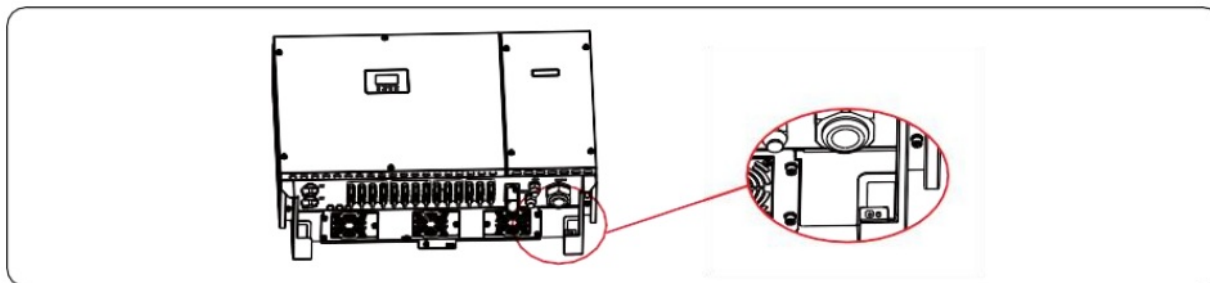

Figure 5.3 Securing the PGND cable
Step 3 Remove the ground screws from the ground points, secure the PGND cable (done by step 1 & 2) using the ground bolts, and tighten the bolts to a torque of 5 Nem using a socket wrench, as shown in Figure 5.3. PE wire must be well grounded to ensure that impedance between Neutral wire and Earth wire be less than 10Ω.